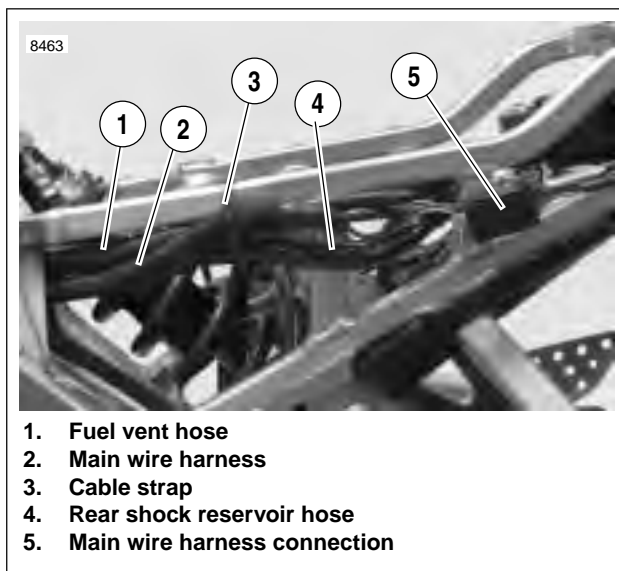
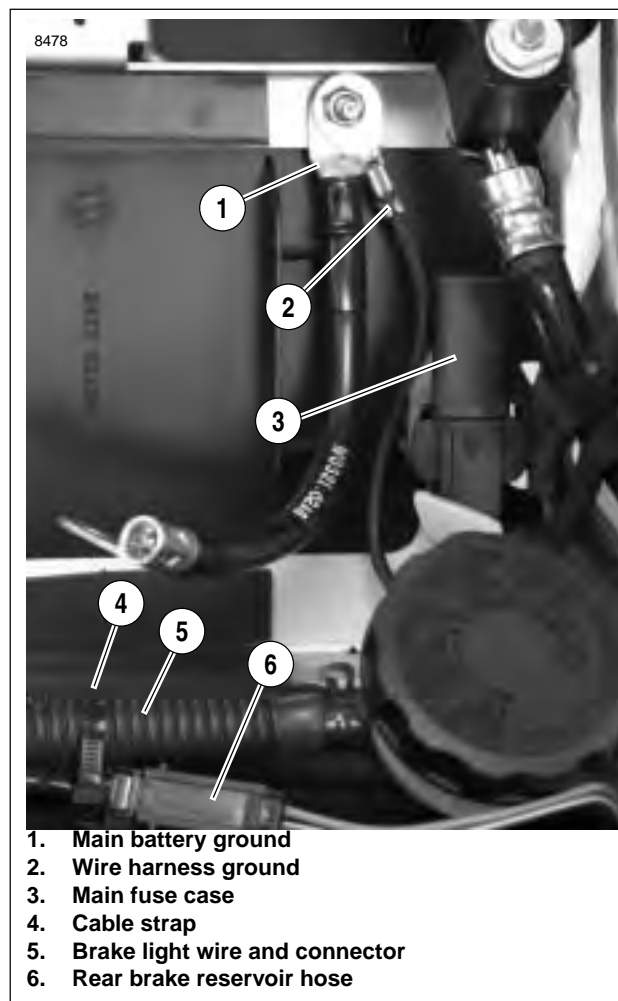
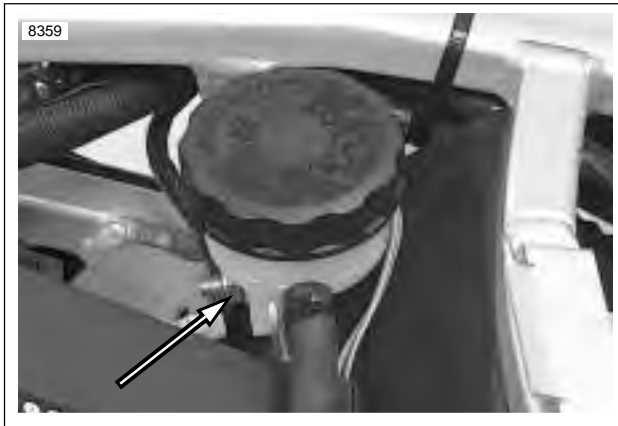
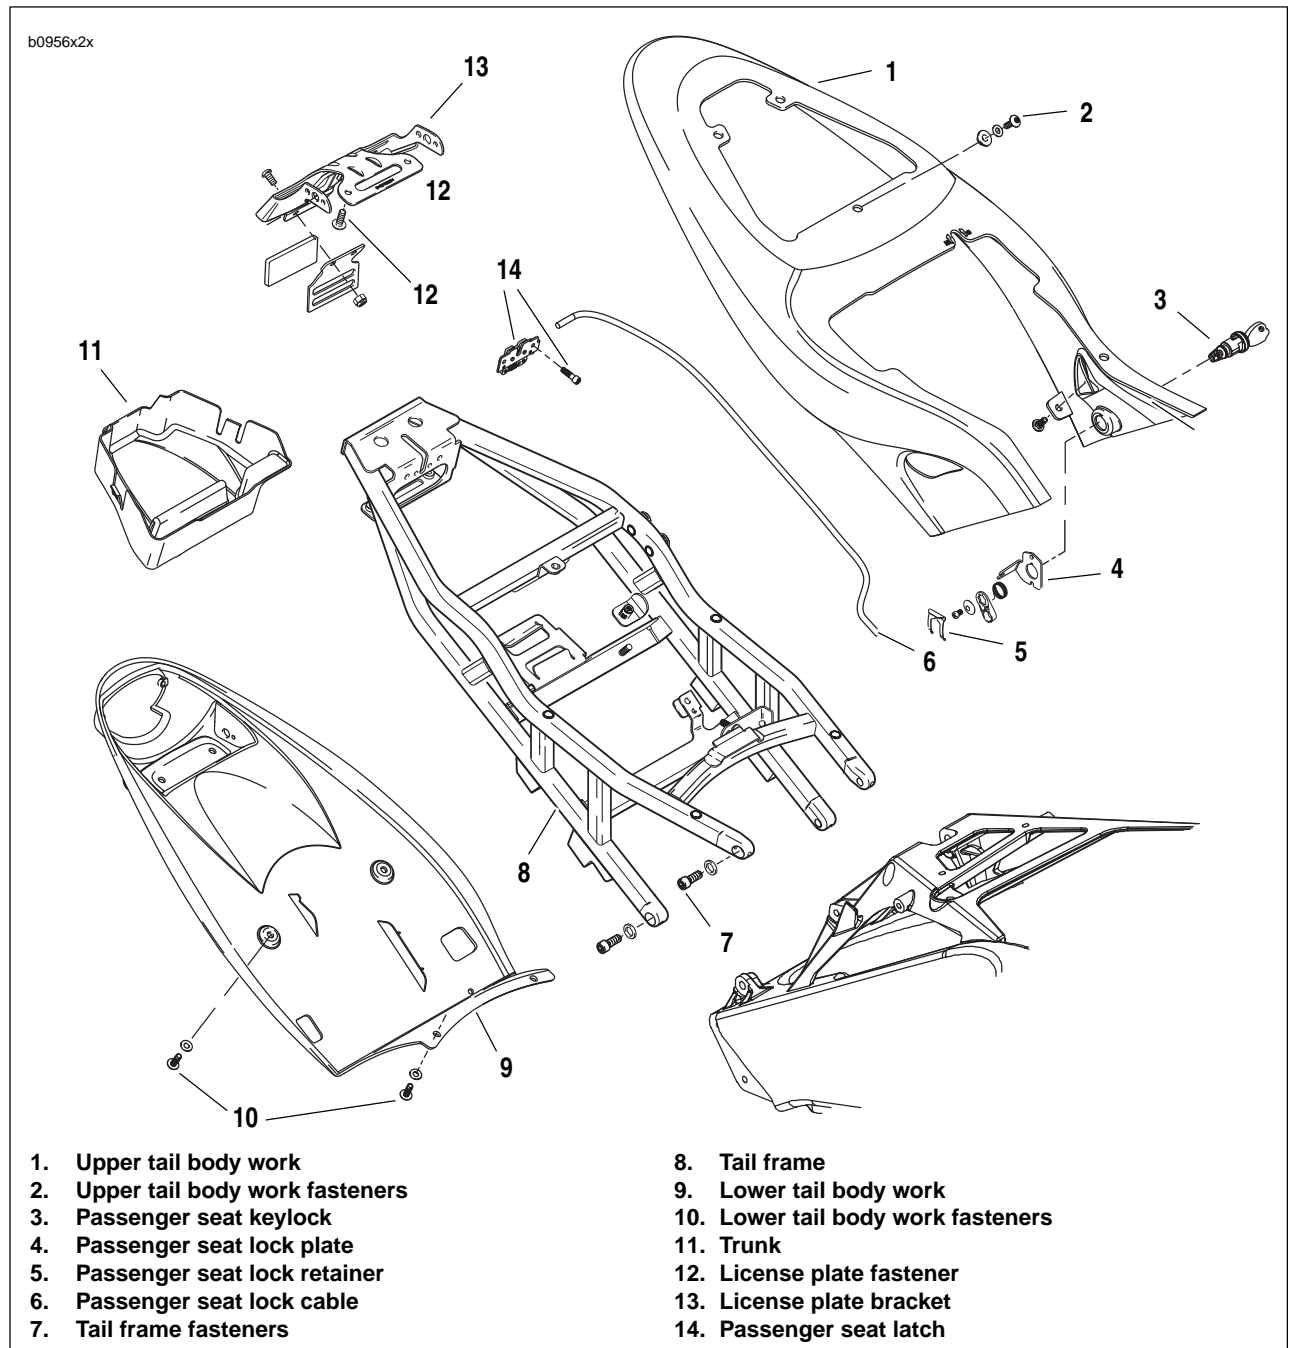

Figure 2-109. Left Side Tail Frame Hose and Wire Routing
Figure 2-110. Inside Tail Frame Hose and Wire Routing
Figure 2-111. Remote Reservoir Clamp Nut
Figure 2-112. Tail Frame and Body Work Assembly
3. See Figure 2-112. Remove upper body work (1) from tail frame (8).
- a. Remove body work fasteners (2).
- b. Disconnect passenger lock cable (6) by removing cable from seat lock plate (4) and ferrule from key-lock (3).
- c. Lift upper tail body work (1) off tail frame (8).
4. Remove passenger seat latch (14) from rear of tail frame.
5. See Figure 2-109. Disconnect rear power harness connection (5).
9. See Figure 2-112. Remove license plate fasteners (12) from lower tail body work (9) and remove license plate (13).
11. Remove lower body work (9) and trunk (11) from tail frame (8).
- a. Remove lower body work (9) underneath tail frame by removing fasteners (10).
- b. Remove trunk (11).
12. See Figure 2-110. Disconnect main battery ground (1) and ground to wire harness (2).
13. Remove main fuse case (3) from tail frame.
14. See Figure 2-110. Cut cable strap (4) holding rear brake light wire (5) and rear brake reservoir hose (6).
15. Disconnect rear brake light connection (5).
16. See Figure 2-109. Cut cable strap (3) from tail frame holding vent hose (1), main wire harness (2) and shock reservoir hose (4).
17. See Figure 2-111. Remove rear brake reservoir clamp nut.
20. See Figure 2-112. Remove tail frame fasteners (7) and remove tail frame (8) from frame.
1. Install tail frame (8) to frame and tighten tail frame fasteners (7) to 21-23 ft-lbs (28-31 Nm) using LOCTITE 272.
3. See Figure 2-110. Feed rear brake light connector (5) into tail frame and connect.
4. Install main fuse case (3) onto tail frame.
5. Install main battery ground (1) and ground to wire harness (2) to tail frame. Tightening fastener to 72-96 **in-lbs** (8-11 Nm).
6. See Figure 2-109. Feed the rear shock reservoir (4) through second tail frame support.
9. See Figure 2-109. Feed fuel vent hose (1) through tail section, keeping the hose on top of rear shock reservoir hose. See D.1 HOSE AND WIRE ROUTING for hose and wire routing.
10. Install cable strap (3) holding shock reservoir hose, wire harness and fuel vent hose to tail frame.
11. See Figure 2-111. Feed rear brake reservoir hose underneath tail frame and install rear brake reservoir tightening fastener to 48-72 **in-lbs** (5.4-8.1 Nm).
12. See Figure 2-110. Install cable strap holding brake light switch and rear reservoir hose.
13. See Figure 2-112. Install lower body work (9) and trunk (11) onto tail frame (8).
- a. Install trunk (11).
- b. Install lower body work (9) underneath tail frame by tightening fasteners (10) to 36-48 **in-lbs** (4-5 Nm).
15. See Figure 2-109. Connect rear power harness to tail light harness (5).